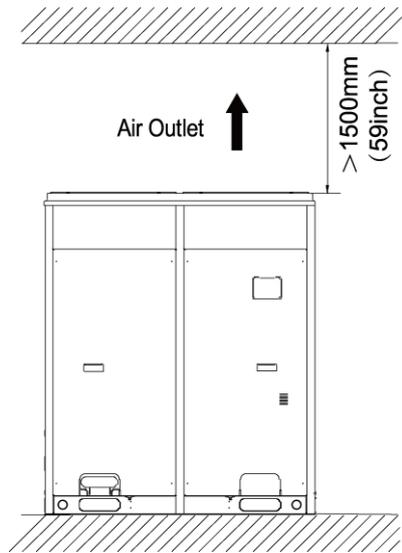

Fig.1
(2) When there is wall (or similar obstruction) above the unit, keep the distance between the unit top and the wall at least 3000mm (118-1/8inch) or above. When the unit is located in a totally open space with no obstructions in four directions, keep the distance between the unit top and wall at least 1500mm (59inch) or above (See Fig.1). When space is limited within 1500mm